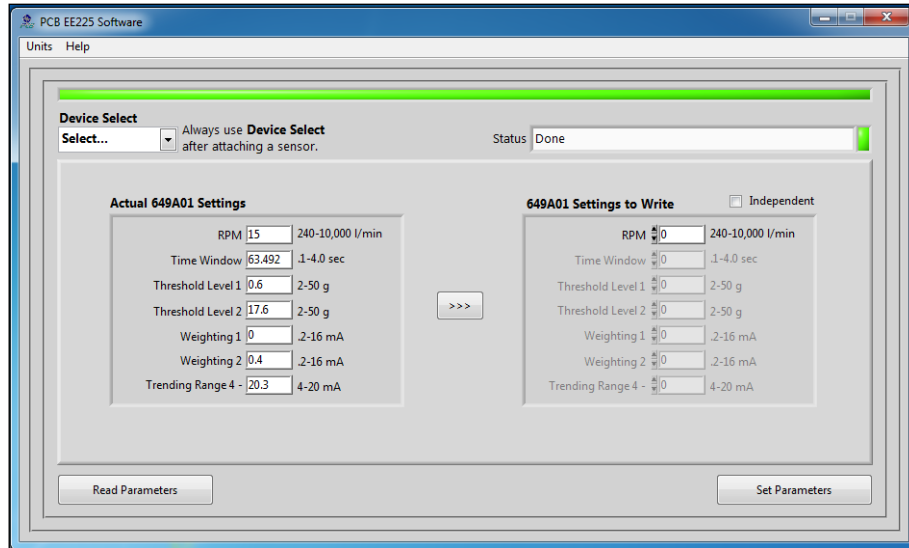

Figure 20 – Typical RMP Screen After Successful Parameter Read
**Example 2:** Connect the RMP to computer with the USB programmer cable. Run the program. Check the Independent box. Note that the RPM field disappears. Type in the following values: Time Window = 1.2, Threshold Level 1 = 5, Threshold Level 2 = 7, Weighting 1 = 0.6, Weighting 2 = 0.8, and Trending Range = 10. Click Setup to program the RMP with these settings. The RMP will be programmed with the custom setting, the status read, and the screen in Figure 20 below displayed.